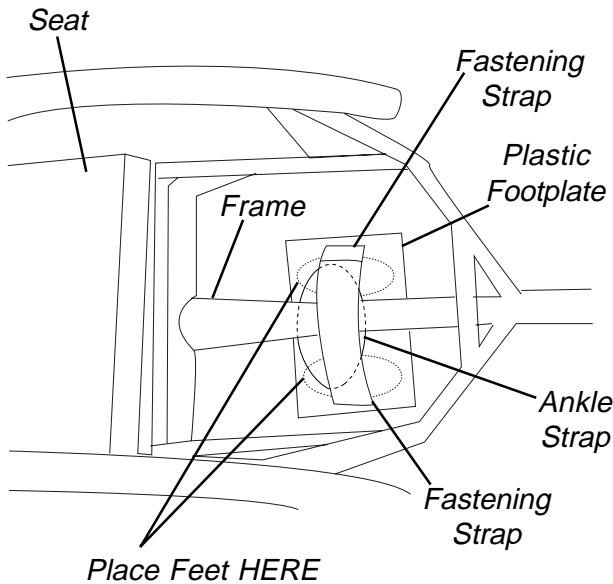

FIGURE 4 - INSTALLING THE PLASTIC FOOTPLATE
INSTALLING THE PLASTIC FOOTPLATE (FIGURE 4)
1. Secure the fastening straps around the frame as shown in FIGURE 4.
2. Place feet onto plastic footplate where indicated in FIGURE 4.